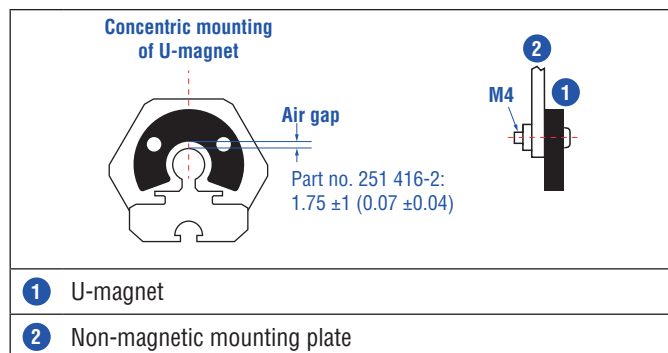
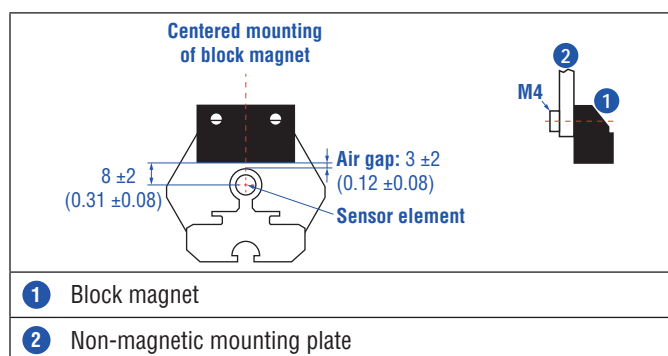

Fig. 37: Mounting of U-magnet (part no. 251 416-2)
Fig. 38: Mounting of block magnet (part no. 403 448)
- Mount block magnets centrically over the sensor rod or the sensor profile. The maximum permissible air gap must not be exceeded (Fig. 37/Fig. 38).